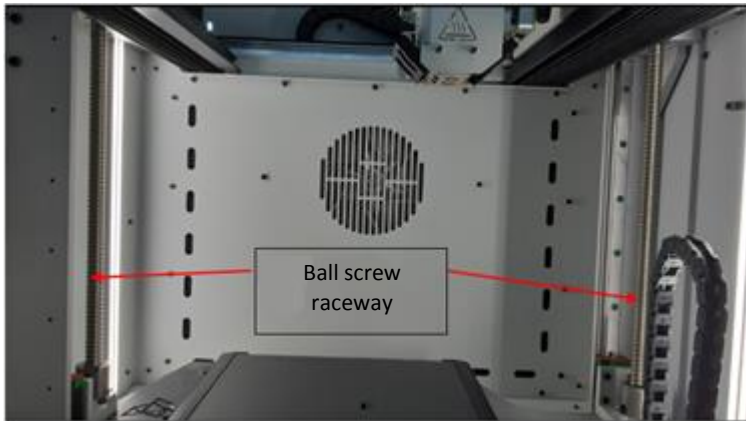

Fig. 29 Lubricating SKF ball screws
- For SKF screws (Fig. 29): apply grease to the raceway of the ball screws using a wooden stick (or other blunt tool). Apply the grease every 5 cm.